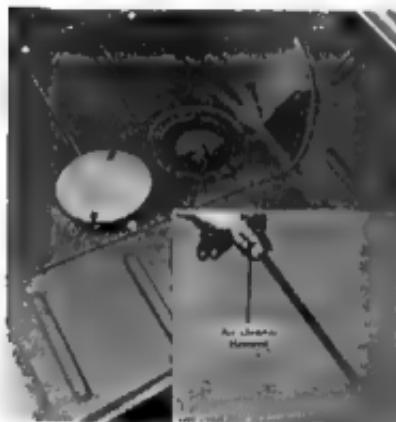

Fig. 88—Checking Transmission Fluid Level
2. Lift access hole cover plate on floor pan (fig. 88) to give access to oil breather and level indicator assembly.
5. Remove oil breather and indicator assembly (see "Checking Hydra-Matic Fluid") and wipe it clean. Clean indicator cap air cleaner (fig. 88) in cleaning solvent.